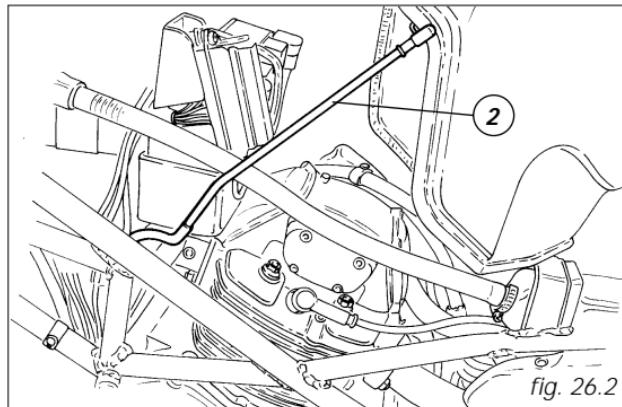

fig. 26.2
Remove the seat (page 21) and lift the hook (1). Lift the tank and unhook the service rod (2, fig. 26.2) from the support. Place the tank onto the rod. When you have finished, reverse the above procedure to refit.